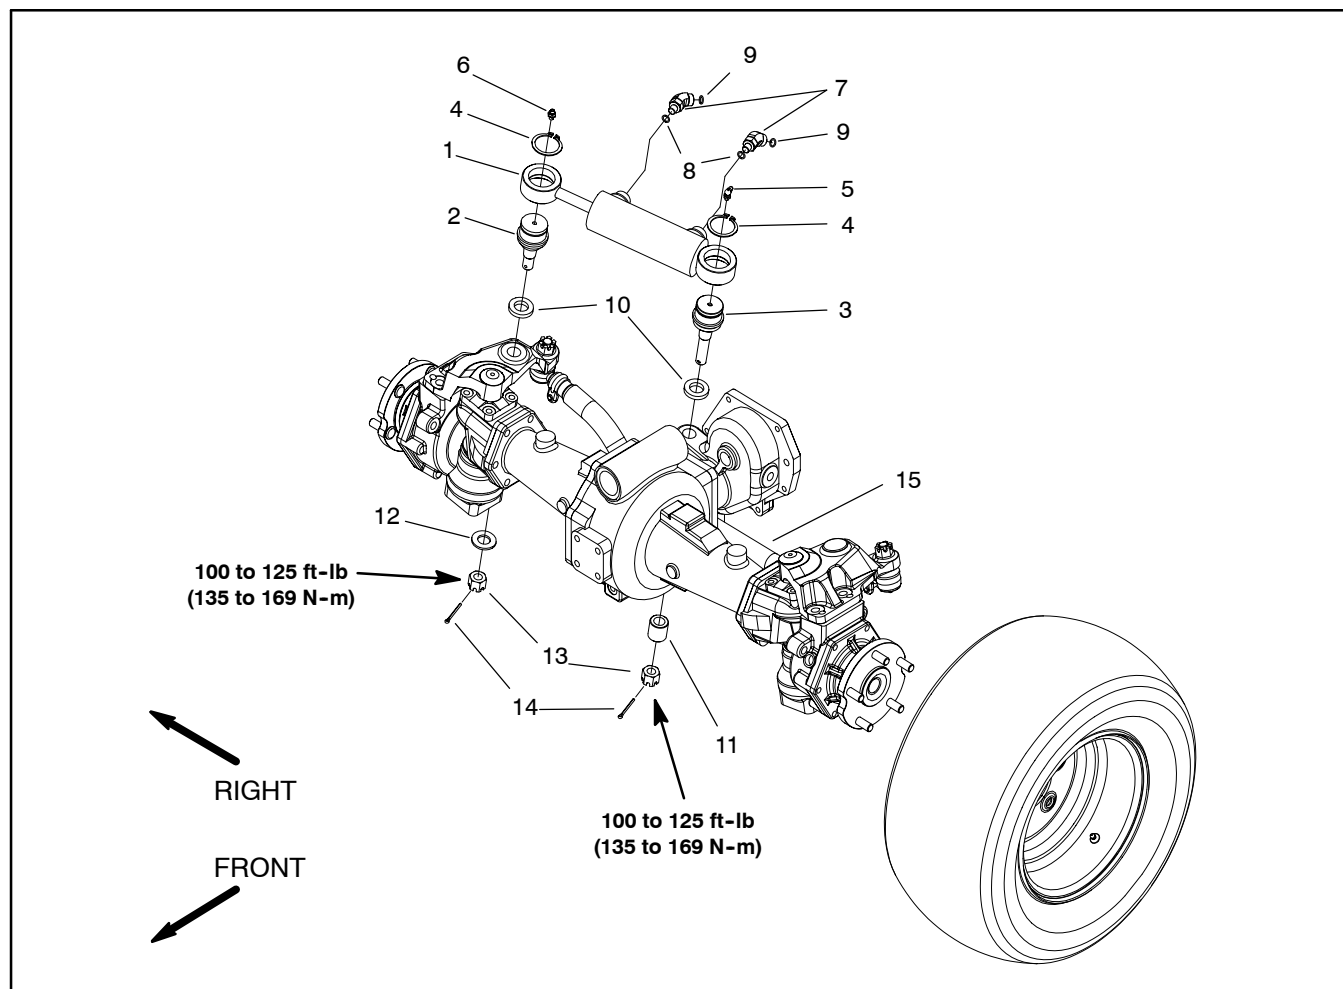

Figure 98
4. Remove cotter pins, hex slotted nuts, axle washer, and ball joint spacer from the threaded ends of ball joints (Fig. 98). Remove steering cylinder with ball joints from machine. Locate and retrieve ball joint spacers from top of axle assembly.